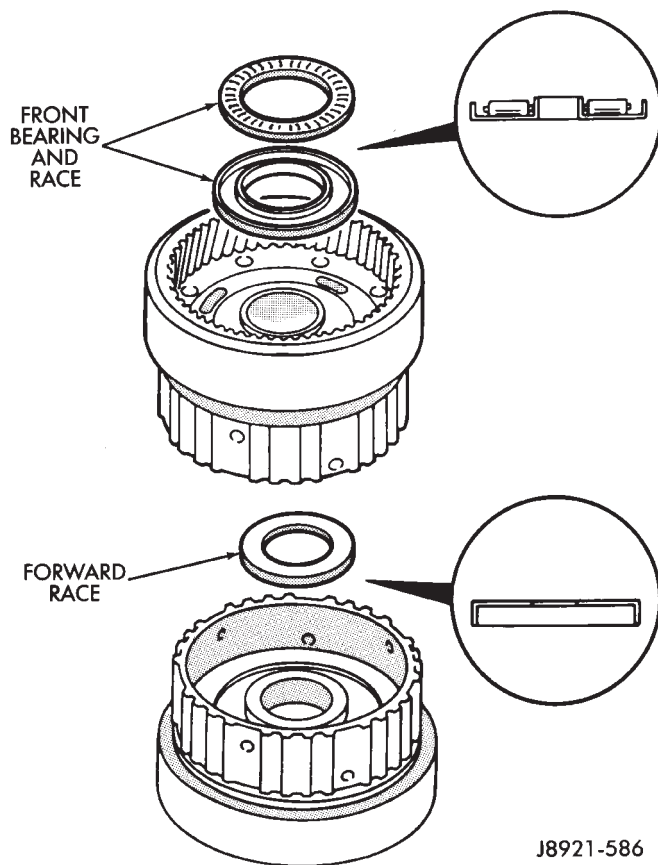

Fig. 4 Installing Front Planetary Front Bearing And Races
- (5) Install front race and bearing and forward race in ring gear (Fig. 4).
- (6) Set planetary gear assembly aside for final assembly.